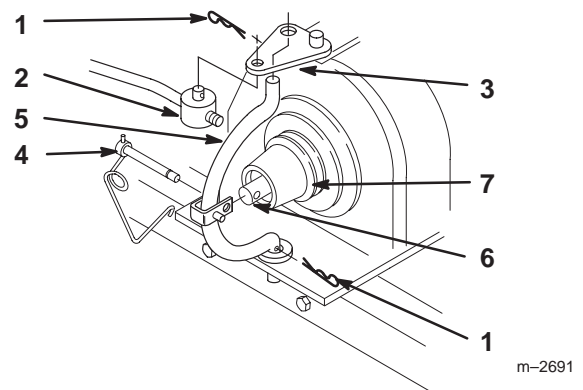

Figure 24
6. Remove hairpin cotters from trunnion and bottom of yoke (Fig. 24).
7. Unlatch and remove locking clevis pin that secures yoke assembly to clutch shaft. Pivot yoke out and forward to remove from clutch shaft and engagement plate (Fig. 24).
8. Remove snowthrower belt from pulley (Fig. 24).
9. Assemble yoke and engagement plate and attach locking clevis pin, trunnion and hairpin cotters to secure (Fig. 24).